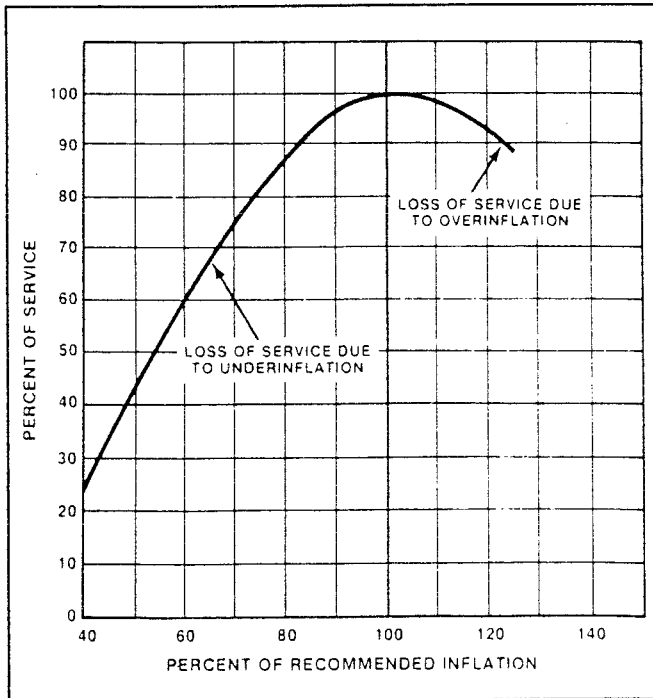

Figure 3-21 — Effect of Inflation on Tire Wear
Overinflation— This is one of the greatest causes of tire damage. Overinflation does not add strength to a tire, nor does it compensate for overloading. Instead, it weakens the tire and causes more rapid wear (Figure 3-21). Specifically, overinflation causes (1) rapid wear in center of tread, (2) greater susceptibility to impact breaks, (3) weakening of bead, (4) stresses that lead to tread separation, (5) reduced cushioning, leading to increased truck maintenance costs, (6) reduced traction and skid resistance.
Underinflation— This causes tires to flex excessively, causing heat build-up and increased tire wear (Figure 3-21). Underinflation leads to (1) excessive wear on shoulder of tread, (2) irregular tread wear, (3) ply separation, (4) greater susceptibility to bruising, (5) tread separation.